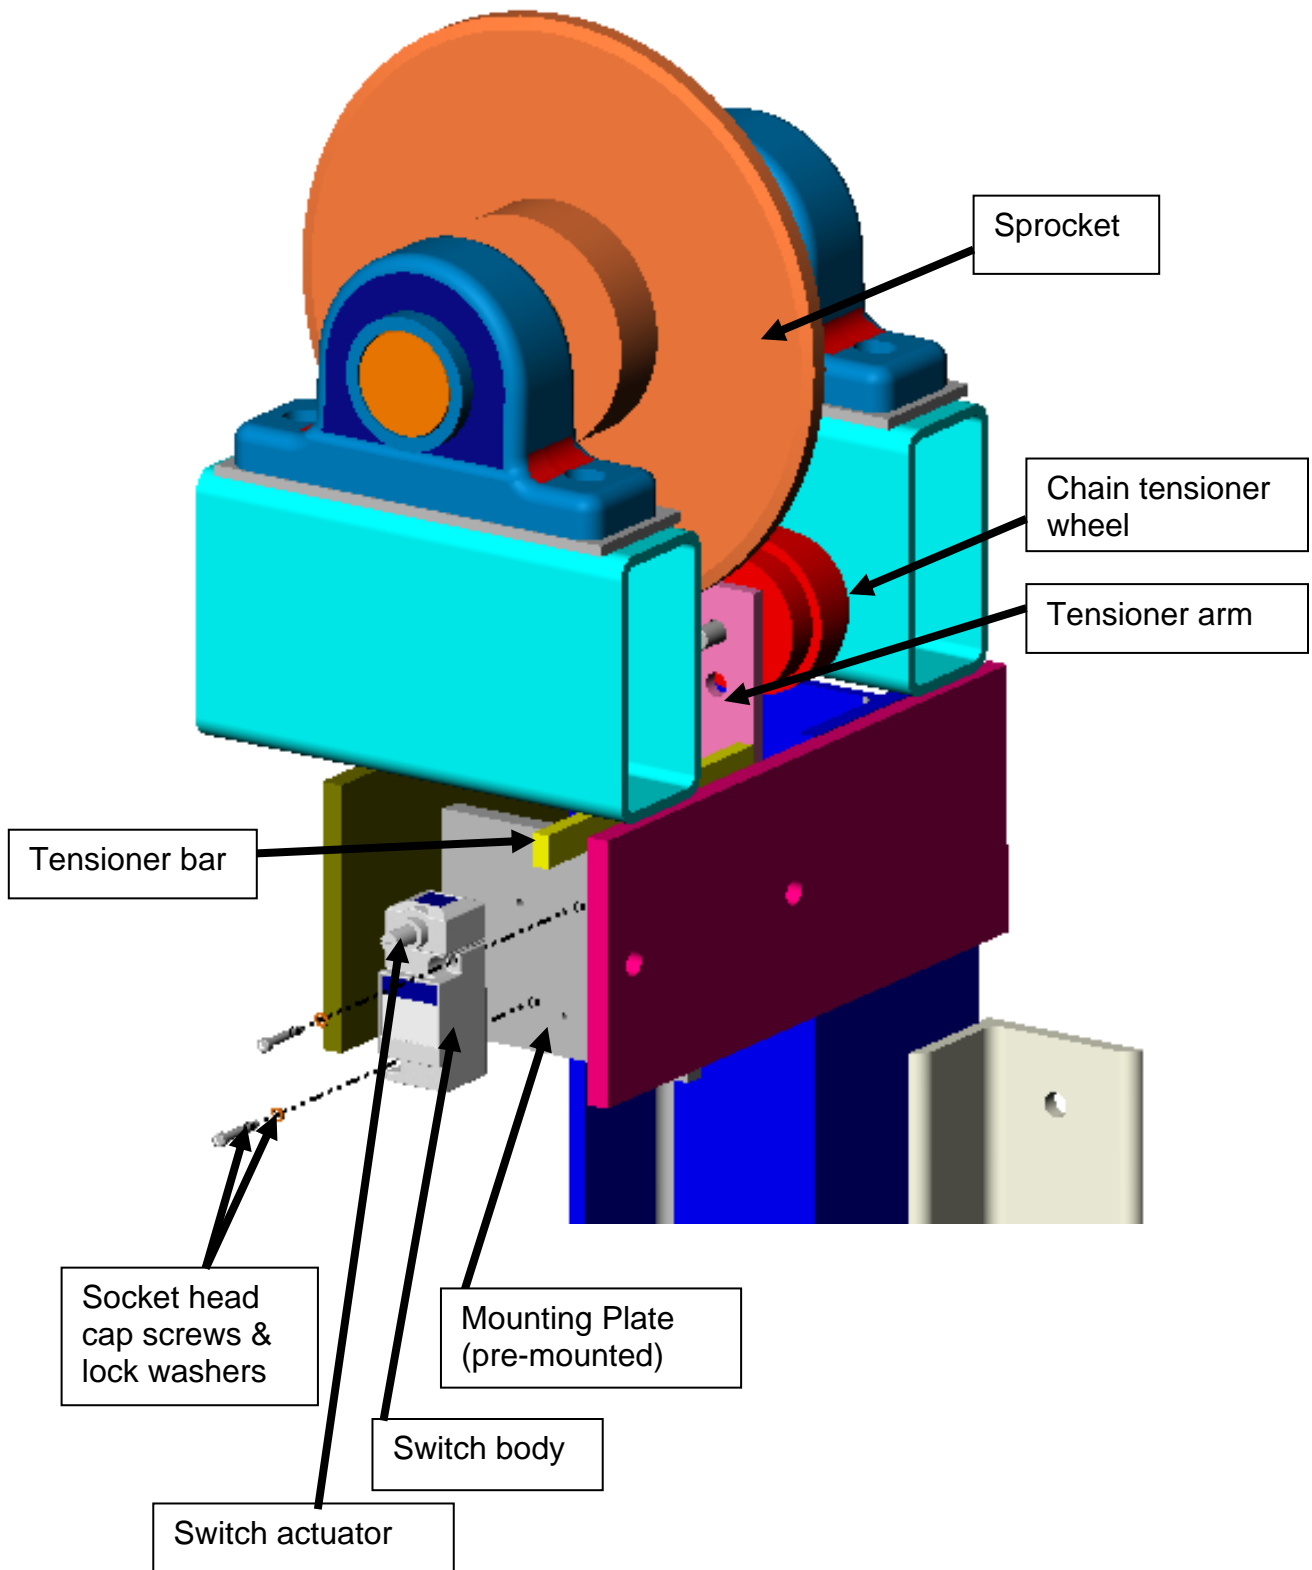

Figure 38a Slack Chain Sensing Switches – Lifting Chains (mounting switch)
L. INSTALLING SLACK CHAIN SENSING SWITCHES (Reference Figures 38a&b)
LIFTING CHAINS (Figures 38a & 38b)
1. To install these slack chain sensing switches, first gain a safe access to the drive base at the top of the masts. There is a slack chain sensing switch kit provided for each lifting chain, (4) total.
- a. Mount the sensing switch to the mounting plate using the 10-24 x 1-1/4" lg hardware provided as shown (Fig 38a)